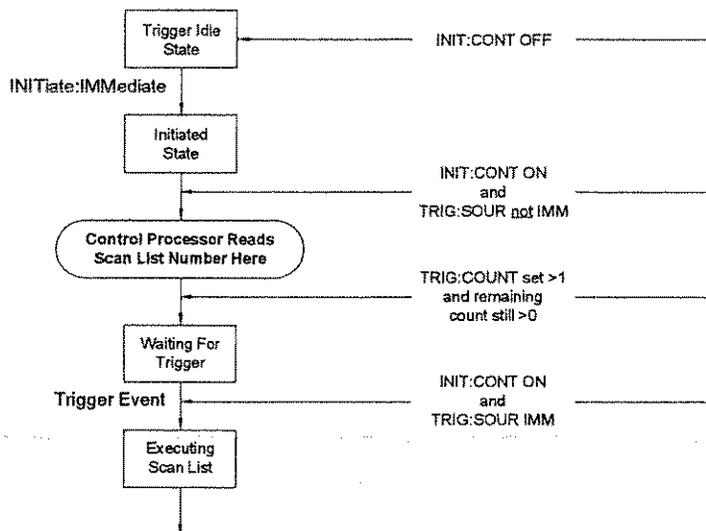

Figure 3-2 Event Sequence for ROUTe:SCAN
- ROUT:SCAN is not sequence sensitive. It can be executed at any time, even while the module is scanning. Normally the specified scan list number becomes effective when the Trigger System moves from the Initiated State to the Waiting for Trigger State. If ROUT:SCAN is executed after this point, it will become effective for the next scan. If INIT:CONT is ON and TRIG:SOUR is IMM, ROUT:SCAN will generate an error. See Figure 3-2.